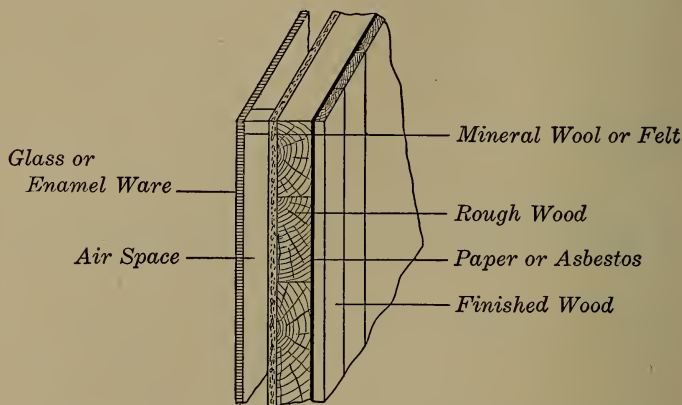

FIGURE 28.—THE CROSS SECTION OF A REFRIGERATOR WALL.
**52. The Refrigerator.**—The refrigerator (Figure 28) uses non-conducting substances for its walls. On the outside is usually wood; next is an insulating layer of paper; then another of wood; then a layer of asbestos or felt; and then an air space. The inside material is usually glass,